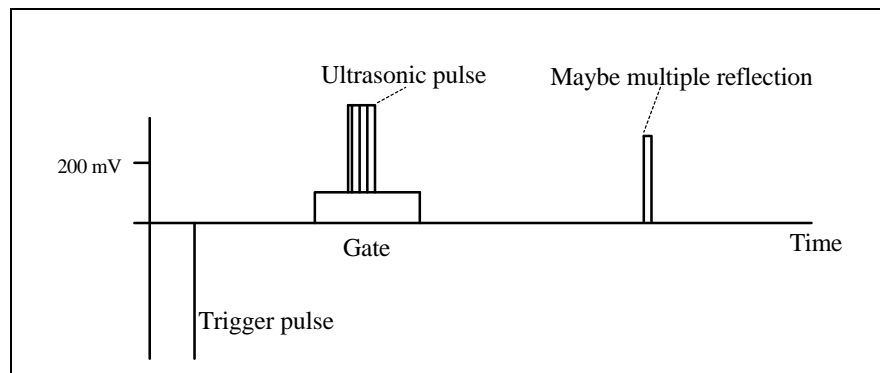

Figure 14: Signal at channel 1 test output with ultrasonic transmission
- If no echo pulses can be seen as illustrated in figure 14, increase the transmission energy (P03) and/or the gain (P04) until ultrasonic signals are received continually.